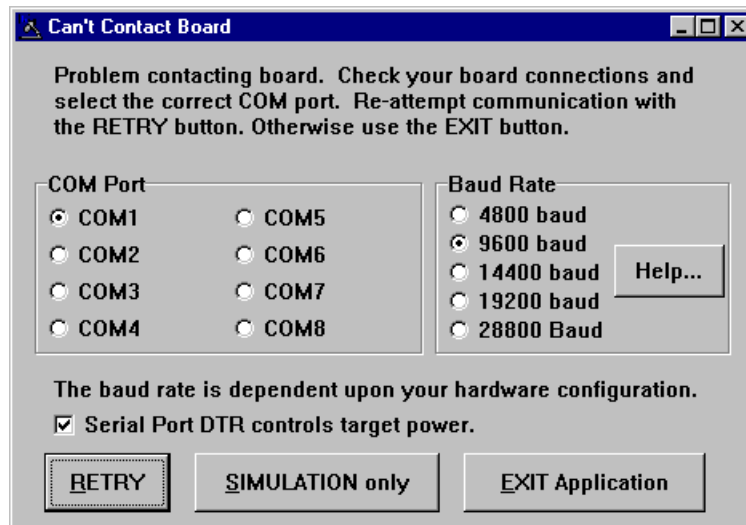

Figure 5-1. Can't Contact Board Dialog Box
After startup the software will attempt to communicate with the board at the given parameters. If the software is not able to connect with the board, the *Can't Contact Board* dialog box (see **Figure 5-1**) appears:
- If the software is not able to connect with the ICS board, the *Can't Contact Board* dialog box (see **Figure 5-1**) appears.